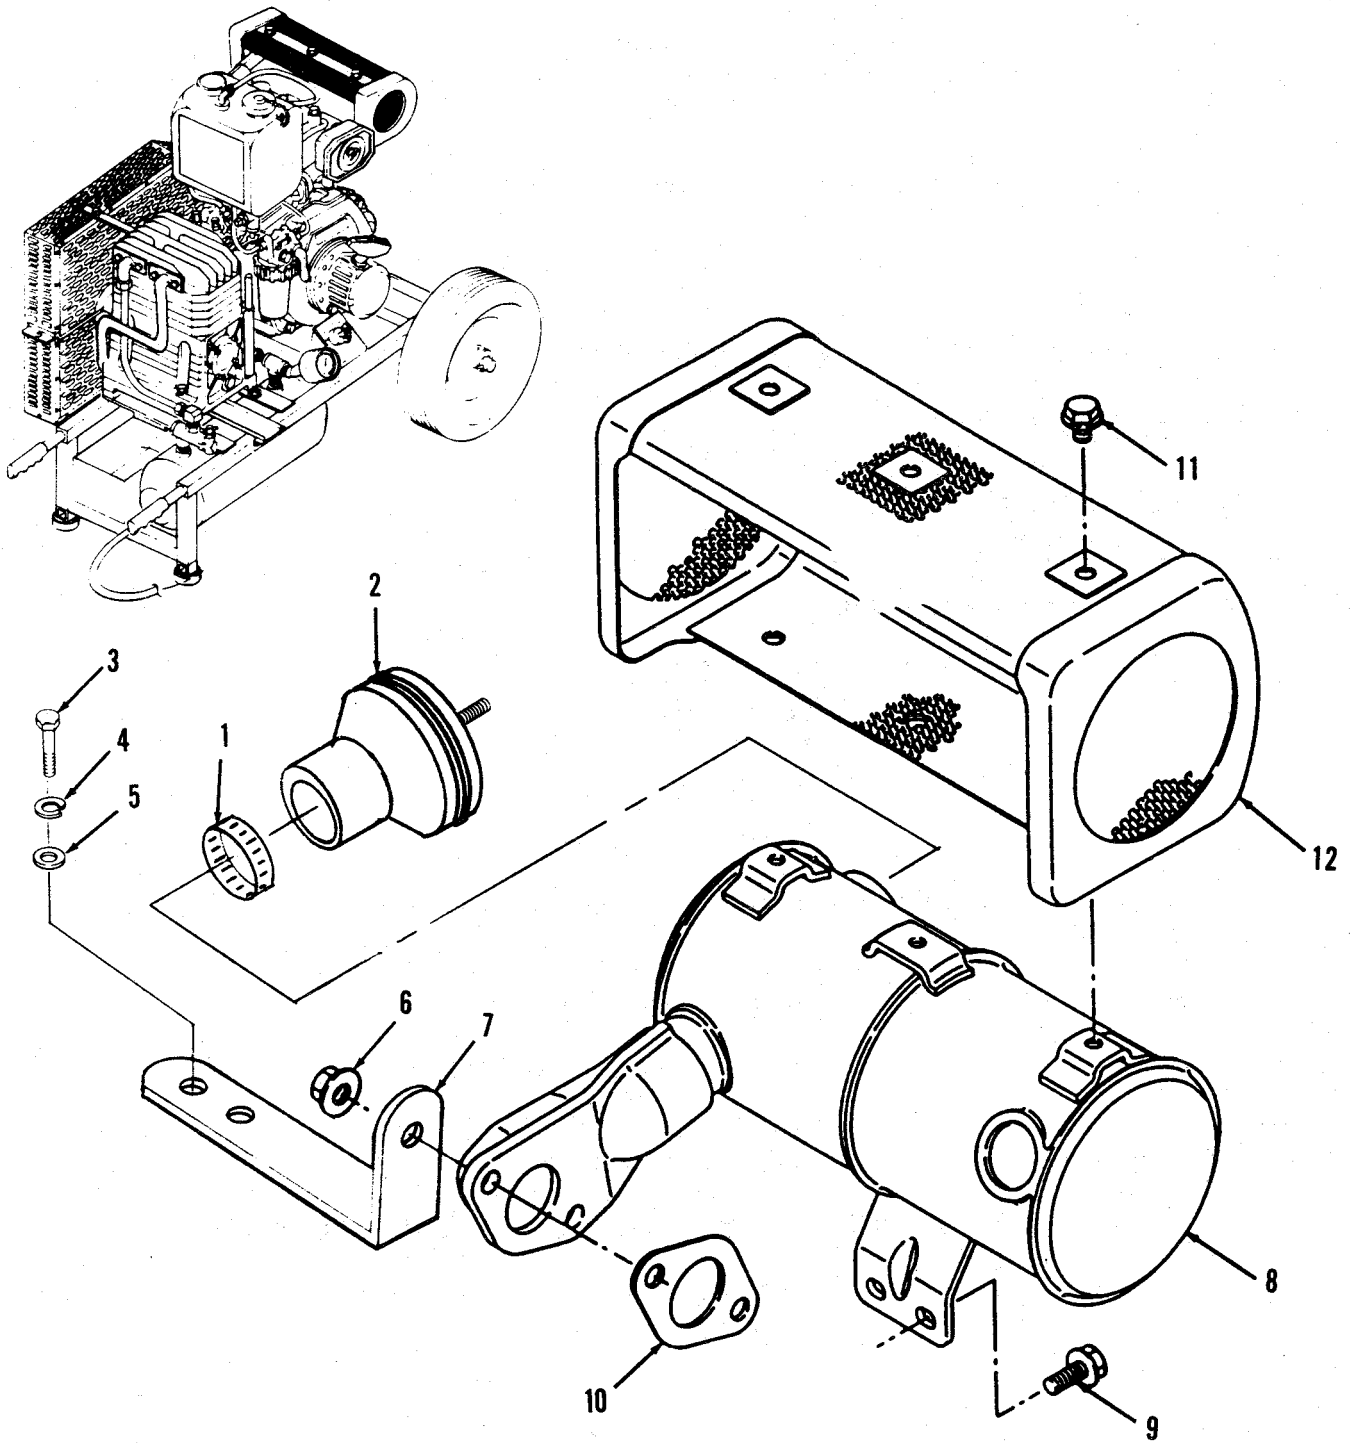

Figure 4-17. Muffler Repair and Replacement.
a. Removal. (Refer to Figure 4-17).
(1) Remove clamp (1) and spark arrester (2).
(2) Remove two screws (3), two lock washer (4), two flat washer (5).
(3) Remove two hex head nuts (6) and bracket (7) securing the muffler (8) to studs on the exhaust port of the engine.
(4) Remove two hex head screws (9) securing the bracket on muffler (8) to the rear of the engine.
(5) Lift muffler (8) and gasket (10) from the studs. Discard gasket.
(6) Remove six screws (11) and muffler cover (12).